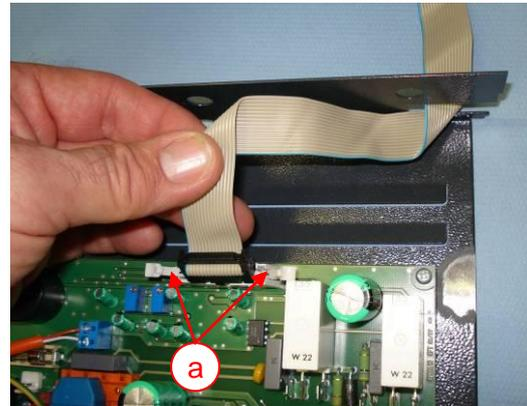

Fig. 25 – connection of the ribbon cable
- Unplug the ribbon cable to the control unit (Fig 25). Press lock levers to the side (Fig. 25 a)
- Lock lever of the ribbon cable must be locked completely (Fig 25 a)